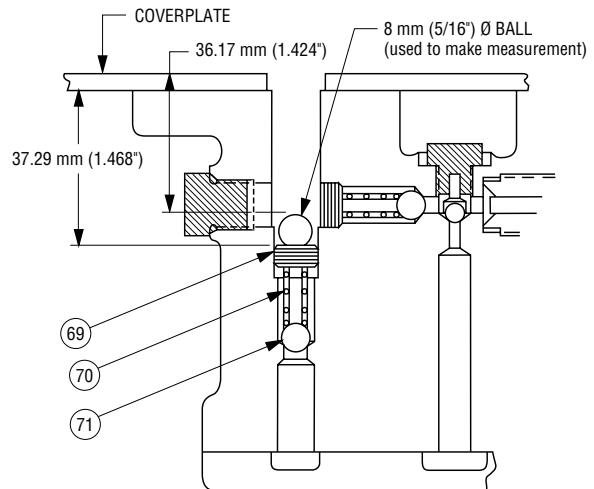

Figure A5 (4)
Low-pressure bypass check valve is set incorrectly.	See Hydraulic Schematic (4). If set too low: The pump cannot shift to the high-pressure stage. See Pressure Adjustment for the Low-Pressure Bypass Check, Figure A5 in the Repairs section of this manual. If set too high: The pump cannot restart under pressure. See Pressure Adjustment for the Low-Pressure Bypass Check, Figure A5 in the Repairs section of this manual.
When properly set to the dimension shown in Figure A5, the high pressure stage operation of the pump will be delayed approximately one (1) second after the motor starts. This delay is created by the closing time of the pilot-operated valve.